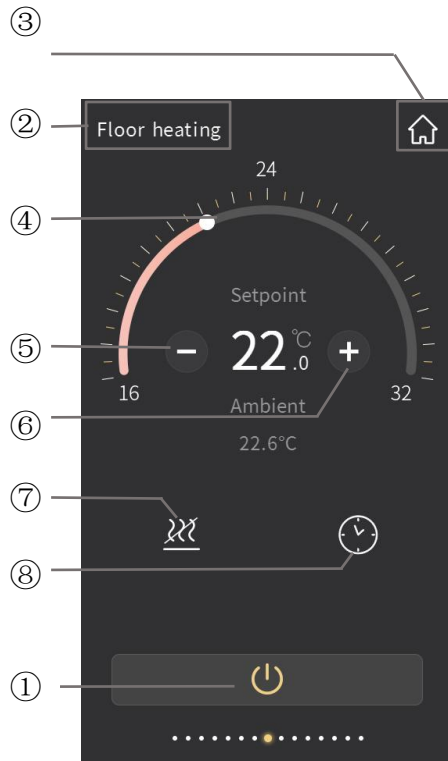
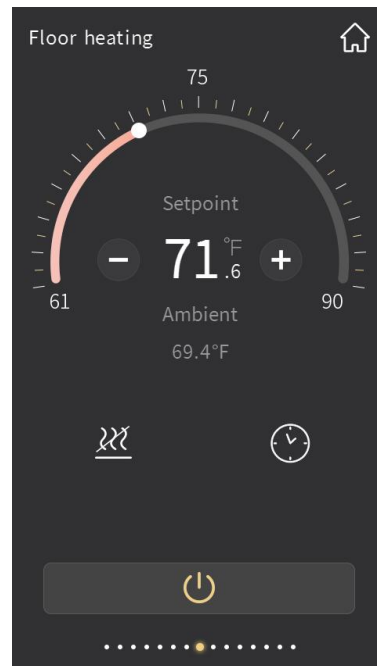

Fig.2.5.1
Fig.2.5.2
- ② This area displays the page description identification of AC control, user can define the description through ETS;
- ③ Return to the home page by touching this icon;
- ④ Adjust the setting temperature by sliding this ring sliver;
- ⑤ The function of this icon is to decrease the temperature;
- ⑥ The function of this icon is to increase the temperature;
Adjusting the temperature by sliding the ring slider④ or touching the icon⑤ and icon⑥. For each touching of icon⑤ and icon⑥, the adjustment range is 0.5 degrees. When the setting temperature unit is set to degrees Celsius(°C), as shown in Fig.2.5.1, adjustment range of the setting temperature is 16~32°C by default; when the setting temperature unit is set to Fahrenheit(°F), the current temperature value will automatically convert to Fahrenheit value, as shown in Fig.2.5.2, adjustment range of the setting temperature is 61~90°F by default. The temperature adjustment range can be modified through parameter setting.